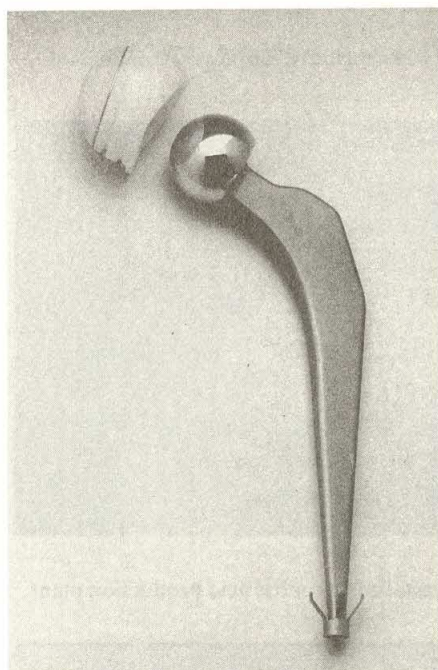

Figure 7.1
In the last hundred years or so, some of the most exciting developments in technology have depended on the discovery of new uses for metals and alloys. Examples are illustrated in figures 7.1 to 7.6.
how fast it cools. What about metals? If you look at figures 7.1 to 7.6 it is hard to believe that metals are crystalline. Where are the straight edges and flat faces of alum or copper(II) sulphate crystals?